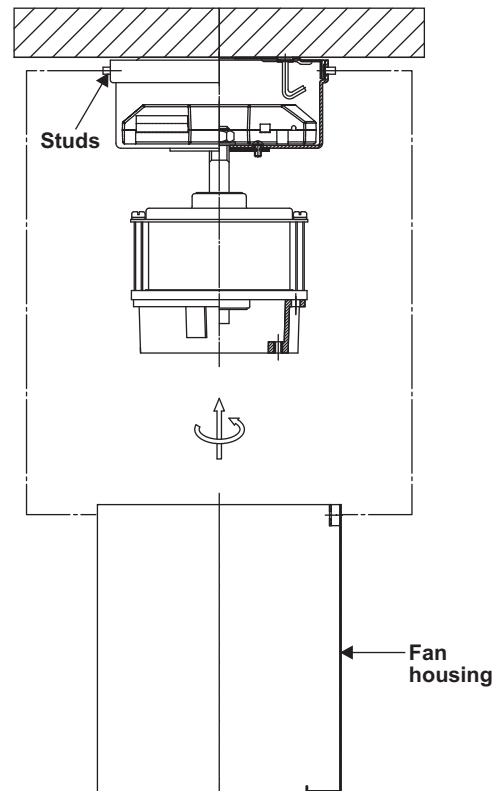

Figure 5
Step 3. Raise the fan housing up against the mounting bracket. The four supports inside the fan housing should be placed against the four studs on the mounting bracket. Twist the fan housing clockwise until snug. (Fig. 5)